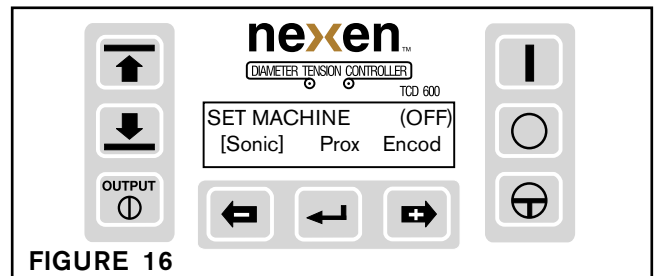

FIGURE 16
5. The lower display line will advance, prompting you to select the type of sensor to be used. The selections are Sonic, which stands for Ultrasonic Sensor; Prox, which stands for proximity sensor, or Prox-Encod, which stands for Proximity Sensor - Optical Encoder (See Figure 16). Press the plus or minus button to select the proper type of sensor, then press Enter.